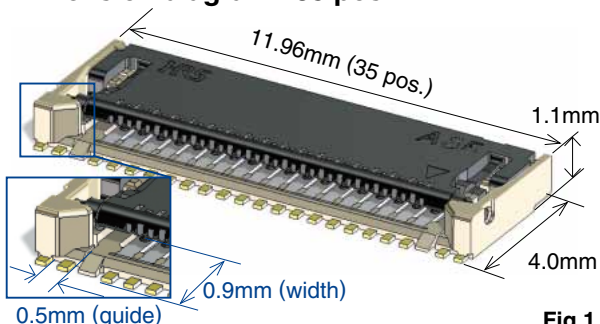

Fig.1
- Space saving design with 0.25mm pitch, 4.0mm width. (Fig.1)
- Wide guide for easy FPC insertion easy. (Fig.1)
Figure 1 is a detailed technical drawing of a land pattern image. It shows a series of rectangular land patterns arranged in two rows, separated by a central gap. The drawing includes various dimensions and labels: